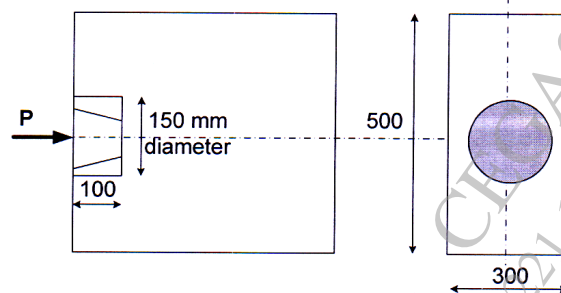

Fig. 2
- Q4) a)** The end block of a post tensioned beam is  $300 \text{ mm} \times 500 \text{ mm}$  and prestressed by Freyssinet cylindrical anchorage of 150 mm diameter as shown in the Fig. 2. The jacking force in anchorage is 900 kN. Design suitable anchorage zone reinforcement and sketch the detailing. [5]